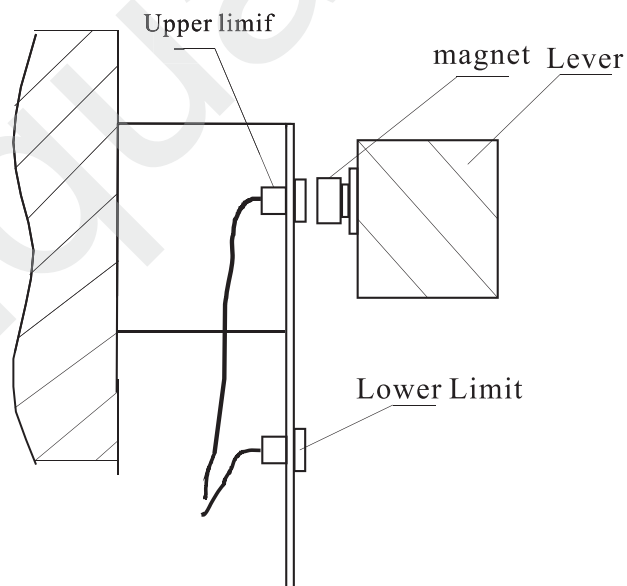

Fig.7
- 5.5 The lifting and lowering of the lever of the Brinell hardness tester has a limit position. A magnet is placed at the tail of the lever, and a sensor is installed at the upper limit position and the lower limit position each ( see Fig.7) After the start of the instrument, the motor works and the lever goes up. The upper limit position receives the signal and the motor stops and the rotate again and the lever returns to its initial position. Take care not to shift the upper and lower limit positions.